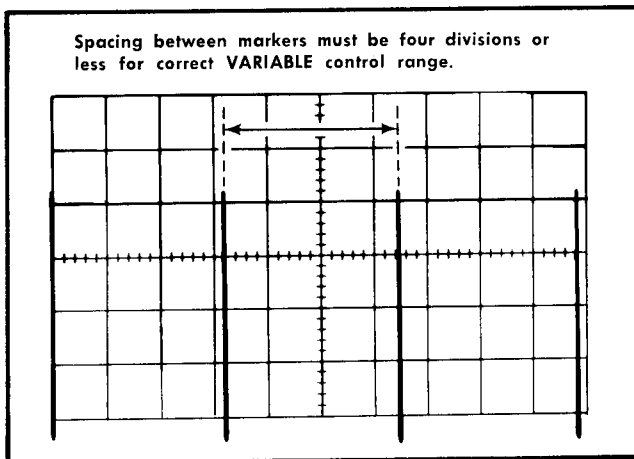

Fig. 5-25. Typical CRT display when checking A and B VARIABLE control range.
- f. CHECK—CRT display for four-divisions maximum spacing between markers (indicates adequate range for continuously variable sweep rate between the calibrated steps; see Fig. 5-25). UNCAL A OR B light must be on when A VARIABLE control is not in CAL position.
- d. CHECK—CRT display for four-division maximum spacing between markers (indicates adequate range for continuously variable sweep rate between the calibrated steps; see Fig. 5-25). UNCAL A OR B light must be on when B VARIABLE control is not in CAL position.